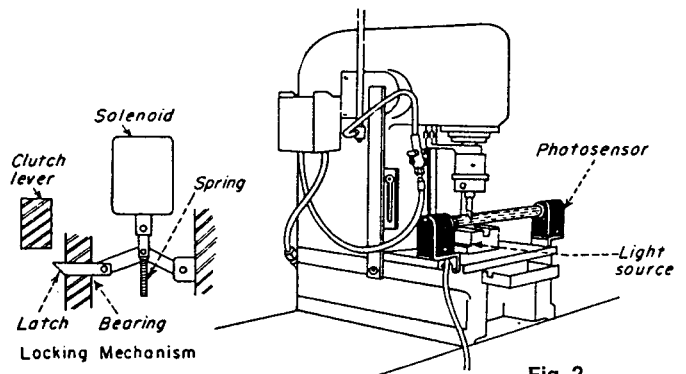

Fig. 2
**Fig. 2** This enclosed, disk-type, snap-action control has a fixed operating temperature. It is suitable for unit and space heaters, small hot water heaters, clothes dryers, and other applications requiring non-adjustable temperature control. It is useful where dirt, dust, oil, or corrosive atmospheres are present. It is available with various temperature differentials and with a manual reset. Depending on the model, its temperature setting range is from -10° to 550°F and its minimum differential can be 10, 20, 30, 40 or 50°F.
**Fig. 2 Operator safeguard.** Most presses are operated by a foot pedal that leaves the operator's hands free for loading and unloading. This creates a safety hazard. The use of mechanical gate systems reduces the speed of production. With photoelectric controls, a curtain of light is set up by a multiple series of photoelectric scanners and light sources. When a light beam is broken at any point by the operator's hand, the control energizes a locking mechanism that prevents the punch-press drive from being energized. A circuit or power failure causes the control to function as if the light beam were broken. In addition, the light beam frequently becomes the actuating control because the clutch is released as soon as the operator removes his hand from the die on the press table.